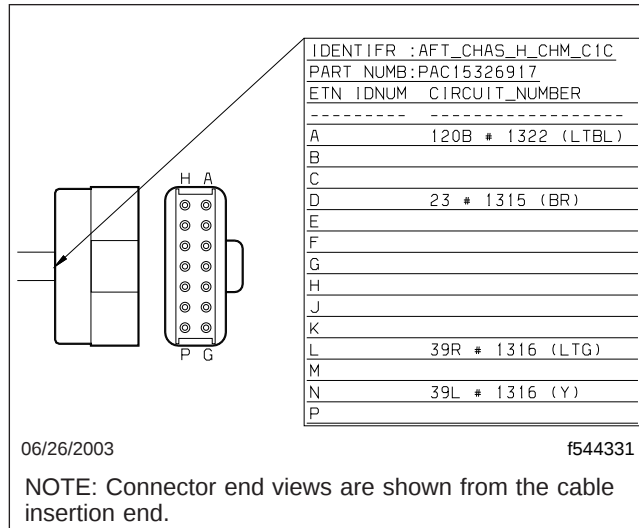

Fig. 2, Chassis Module Connector C1 Pinouts (typical)
6. Remove the seals from CHM connector C1, and cavities G and P. See Fig. 2.
7. Install the wire for the LEFT turn-signal light into connector CV1, cavity G. See Fig. 2.
8. Install the wire for the RIGHT turn-signal light into connector CV1, cavity P. See Fig. 2.